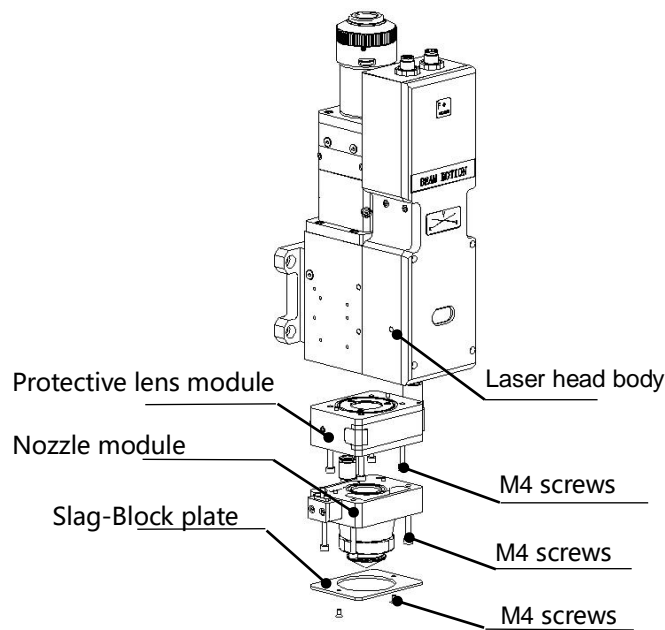

Fig 6.5 - Remove the protective lens and the nozzle component
- Place the laser head horizontally. As shown in Figure 6.5, remove the locking screws from bottom to top.